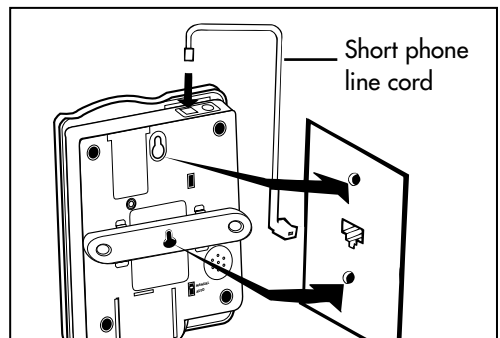

Figure 7 - Wall mounting installation
4. Plug in the short phone line cord and mount the phone as shown in Figure 7.